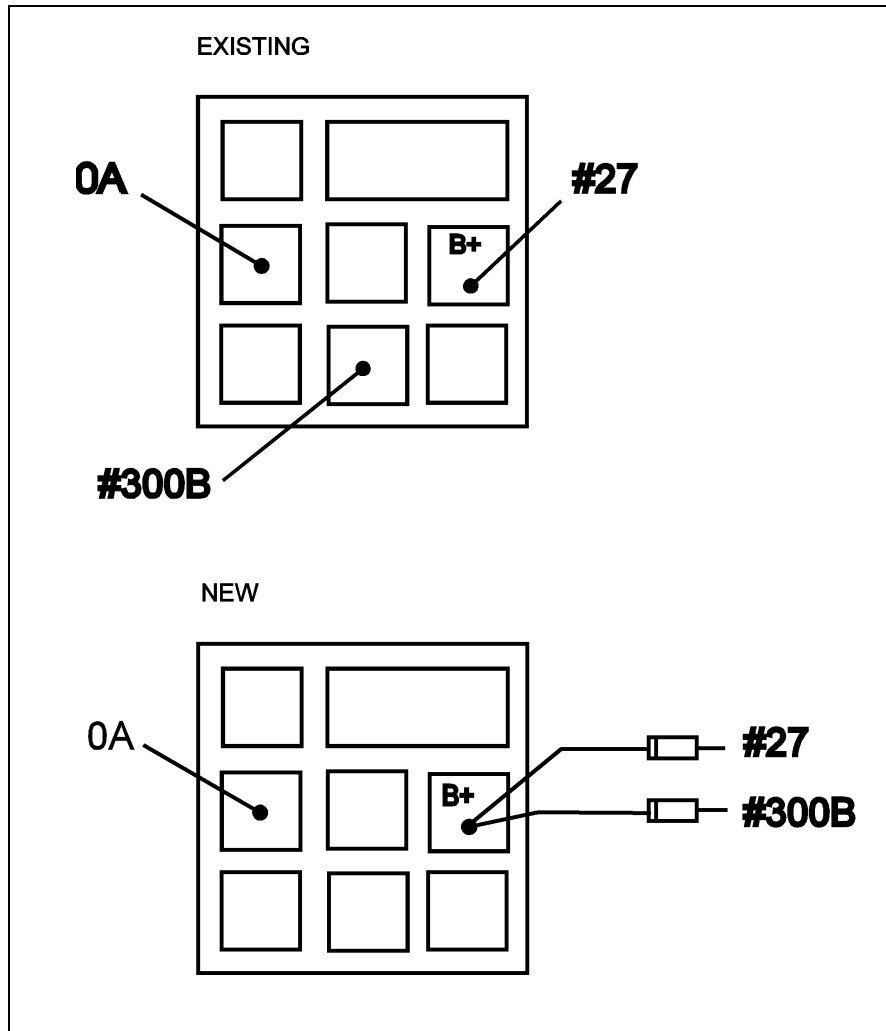

FIGURE 1: VUE FROM UNDERNEATH OF RELAY CONNECTOR AA2
3. Extract wires #300B and #27 from AA2 relay connector (Fig.1).
4. Cut terminals and solder two diodes (Prévost #560931) in series on each wire (Fig. 1).
Warning: Make sure diodes are installed properly, see figure 1.
7. Connect terminal in port B+ of AA2 relay connector (Fig.1).